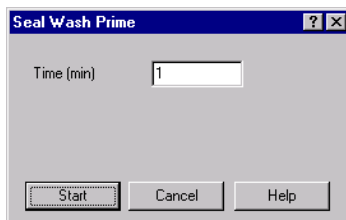

Figure 3-26 Seal Wash Prime Dialog Box
5. Select Operations > Seal Wash Prime to open the Seal Wash Prime dialog box (Figure 3-26).